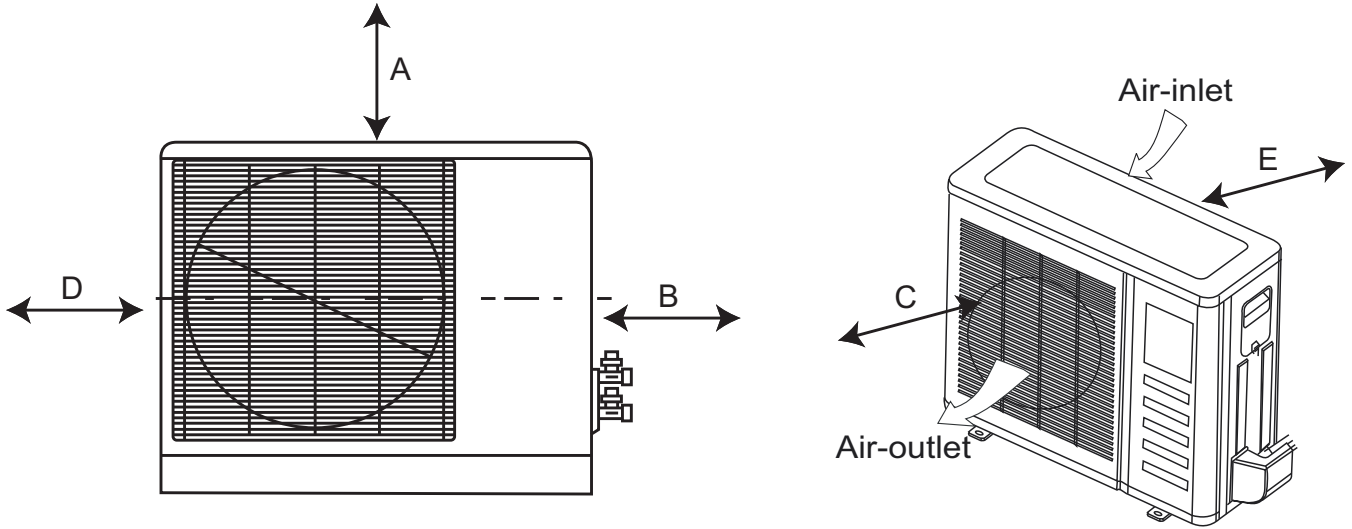

Fig. 10 – Clearances
- A location with appropriate clearances as outlined in Fig. 10.